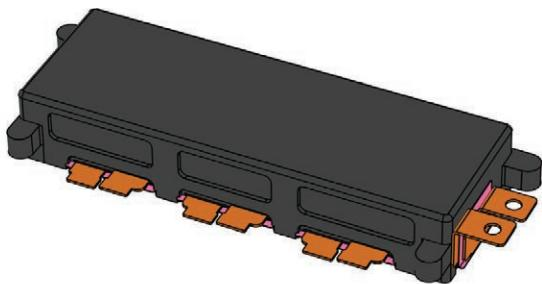

FIGURE 2 A typical DC link capacitor, with a battery interface on the right and transistor connectors on the front.
As the automotive industry races toward an electrified future, Bosch is accelerating its R&D into the essential building blocks of electric drivetrains. One of these components is the inverter, which changes direct current (DC) from the car's batteries into alternating current (AC) to power its drive motor (Figure 1). The inverter's ability to provide a smooth flow of current depends on its integral DC link capacitor (Figure 2). "The capacitor is one of the most expensive components of the inverter. Its performance has a direct impact on the performance and reliability of the inverter, which is fundamental to the operation of the drivetrain," explains Martin Kessler, Bosch senior expert for automotive electronics.